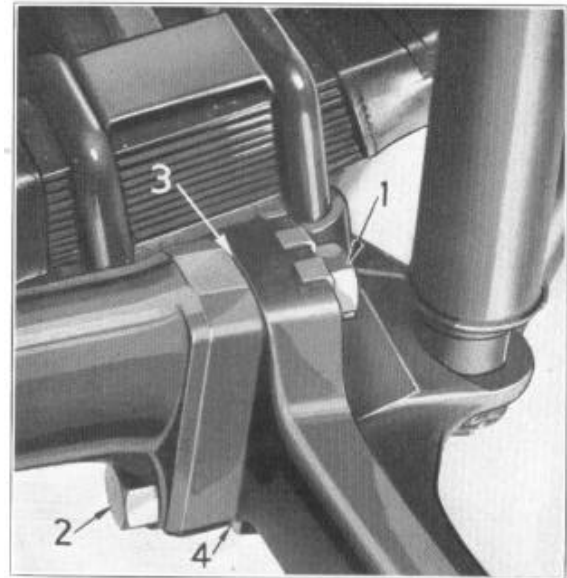

Figure 17
128. If the caster is less than 1° or more than 2° , remove the bolts 1 and 2, Figure 17, attaching the torque arm to the axle, being careful not to loosen shims 3 and 4 between axle and torque arm.
shim at (3) or increase thickness of shims at (4). To decrease caster, increase thickness of shim at (3) or decrease thickness at 4 (Figure 17). The shim thickness used on both sides of a car should always be the same.